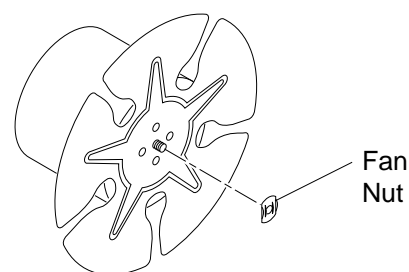

Figure 11 - Removing Fan Nut from Motor Shaft
3. Use pliers to remove the fan nut from front of motor shaft (see Figure 11).